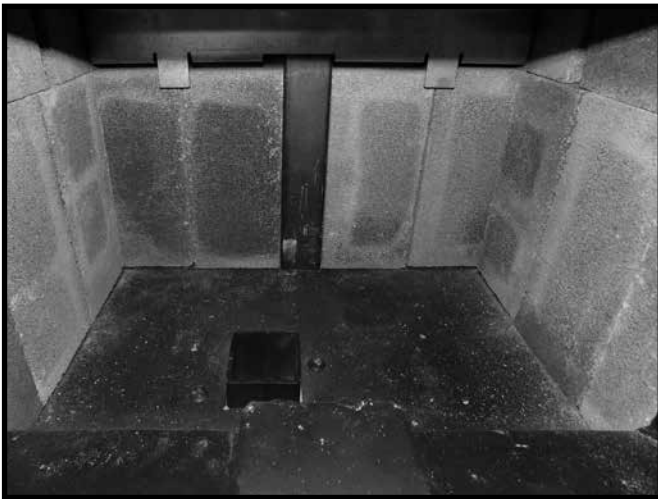

Figure 23. Firebox floor with ash dump.
7. Repeat steps 4-6 on the other side Figure 23.